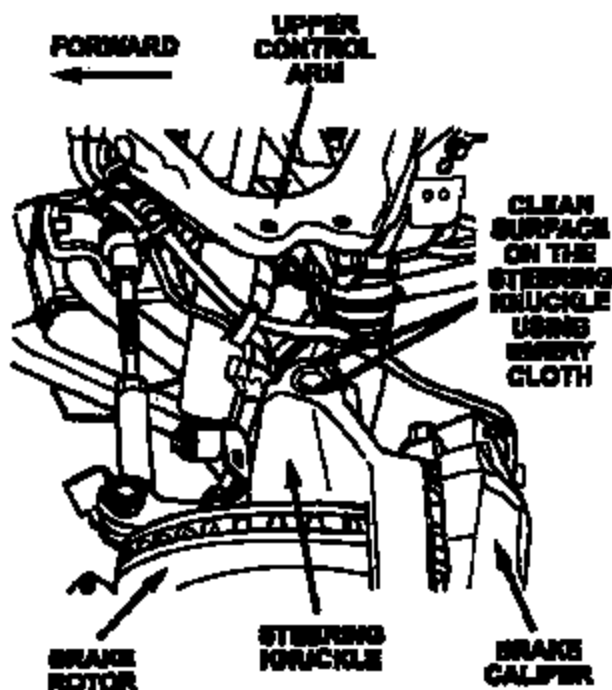

Figure 2 – Left Side Shown
11. Using 100 grit emery cloth, lightly sand the top surface of the steering knuckle to remove any rust and/or scale from the steering knuckle (Figure 2).